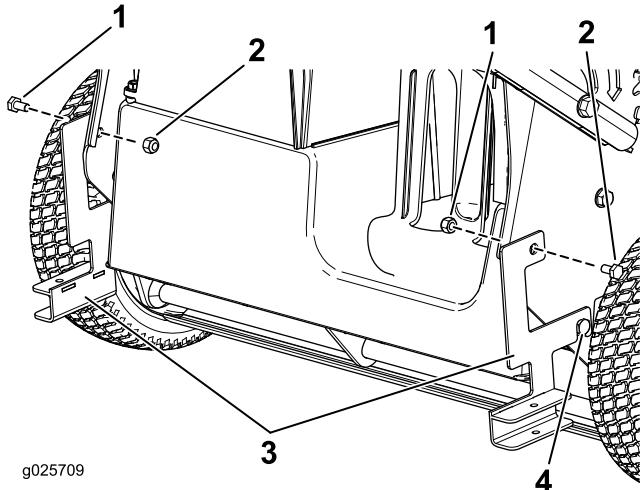

Figure 1
1. Loosen the bolt near the right rear wheel (Figure 1).
2. Attach the right-hand bracket to the right side of the mower using a bolt and a nut. Tighten the bolt to 13.5 N·m (10 ft-lbs) (Figure 1).
3. Tighten the bolt you loosened in 1 to 17.6 N·m (13 ft-lbs) (Figure 1).